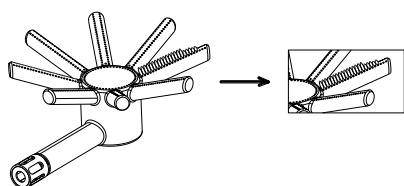

Figure 2
- If the device has the flame in Figure 2, things to check: